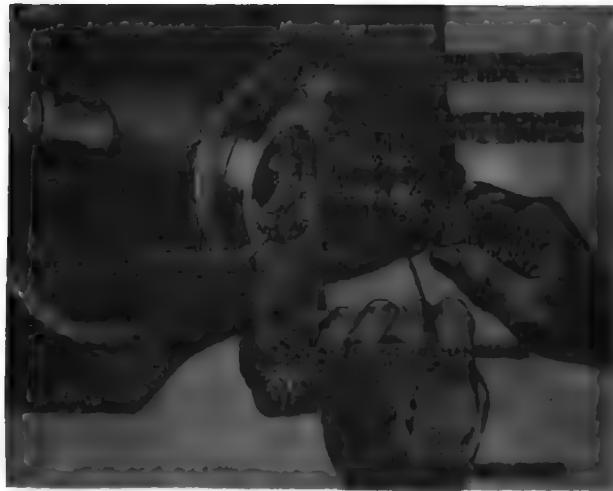

Figure 86. Inserting firing mechanism M1 in firing mechanism housing.
(2) Should the primer be slightly oversize or the primer holder dirty, the primer will stick before it is properly seated. Do not exert force to seat the primer holder. Remove the primer and clean the primer holder, or insert another primer.
b. Insert the firing mechanism in the firing mechanism housing (fig. 86), exercising care that the front end of the primer has entered the obturator spindle plug. Seat the mechanism by turning it clockwise until it has contacted the firing mechanism stop stud and the firing mechanism safety latch has moved to the right. If the mechanism will not seat properly, the primer may be oversize, its seat in the plug or in the primer holder may be dirty, or the breech may not be fully closed.
j. Attaching M123A1 Howitzer to the Prime Mover. Raise the trails with the trail jack assembly and back up the prime mover until the lunette can be placed over the prime mover coupling pintle (fig. 89). Release the carriage handbrakes. Remove the air brake hose couplings from the dummy couplings on the trails (fig. 87). Cross the service and emergency air brakes hoses, as shown in figure 36, and connect them to the prime mover air hose couplings. Close the drain cock on the air tank. Open the air line cut-out cocks on the rear of the prime mover. For night travel, install the blackout light system (fig. 81). Insert the blackout light system plug in the receptacle at the rear of the prime mover (fig. 86).